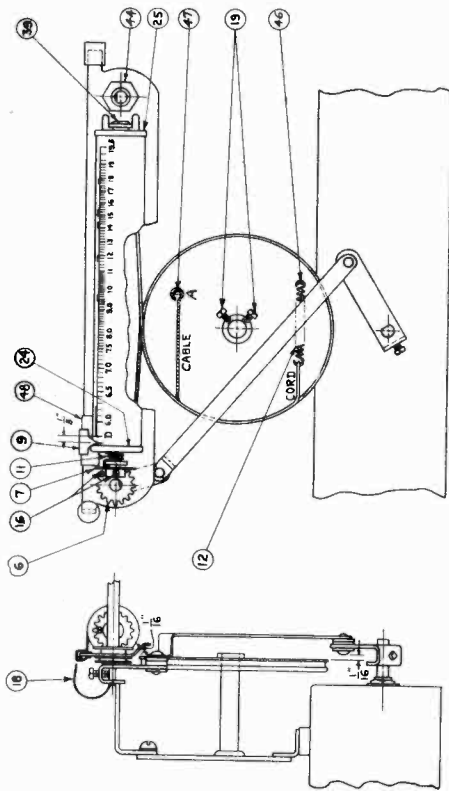

Fig. 6. Dial Mechanism
replace either the drive cable or the drive cord, remove the dial scale for convenient access to guide (48). Unhook spring (12) from tab (46) to release tension. Unhook the cable or cord from guide (48) and unwind thread to agree with Fig. 6, and rehook drum spring (12) as shown.
Loosen the two set screws holding the toggle mechanism on the band change switch and on shaft (6). Replace with new assembly, setting lower lever arm 1 1/2 in. away from the condenser drive drum as shown in Fig. 6, and tighten set screw on frequency band switch shaft. Rotate shaft (6) clockwise until there is slight tension on spring (11) with the scale in the Band "D" position. Place upper lever arm in shaft and tighten set screw.
The scale pointer is soldered to the slider. To set the pointer mechanically, turn the tuning condenser rotor so that the plates are fully engaged, and solder the pointer to indicate 1/4 in. to the left of the extreme left-hand line on the Band "D" scale as shown in Fig. 6.
With set screws (19) loosened and tuning condenser plates fully engaged, place the drum in the position as shown in Fig. 6 so that drum spring (12) is approximately horizontal, and the top rim of the drum is 1/4 in. away from the mounting plate. Guide (48) should stop at equal distances from each end of the mounting plate slot.